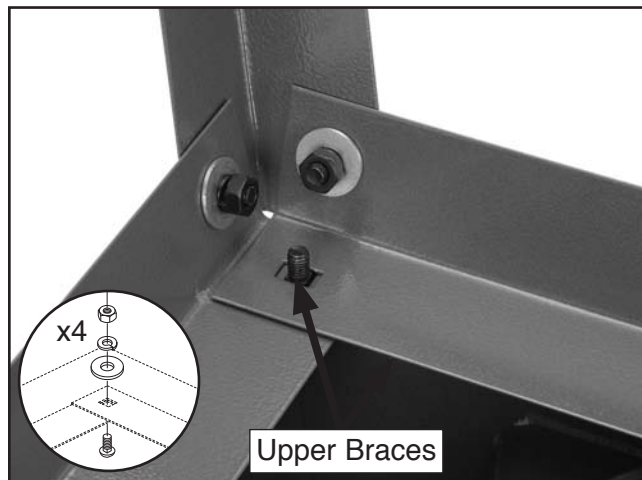

Figure 14. Mounting hardware.
7. In each corner of the sander base, line up the holes in the sander and both upper braces, then insert one M8-1.25 x 16 carriage bolt, as shown in **Figure 14**. Secure it with a 10mm washer, 8mm lock washer, and one M8-1.25 hex nut. Do not yet fully tighten the hardware.